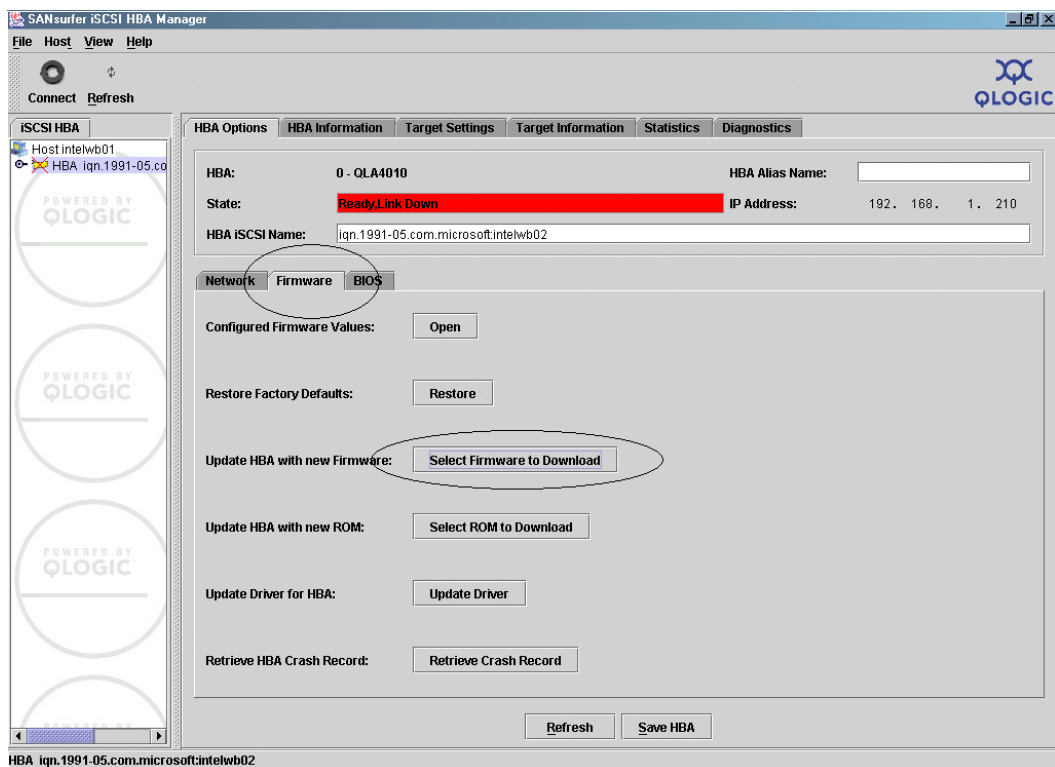

Figure 56 SANsurfer iSCSI HBA Manager, HBA Options, Firmware tab
1. Click the **Firmware** tab on the **HBA Options** dialog, as shown in Figure 56.